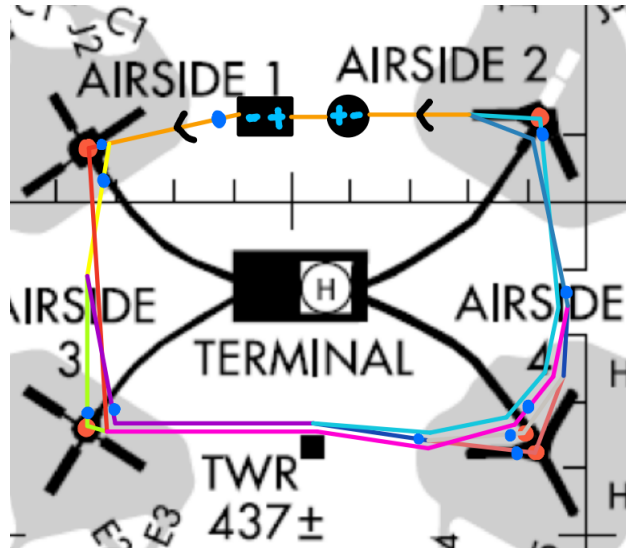
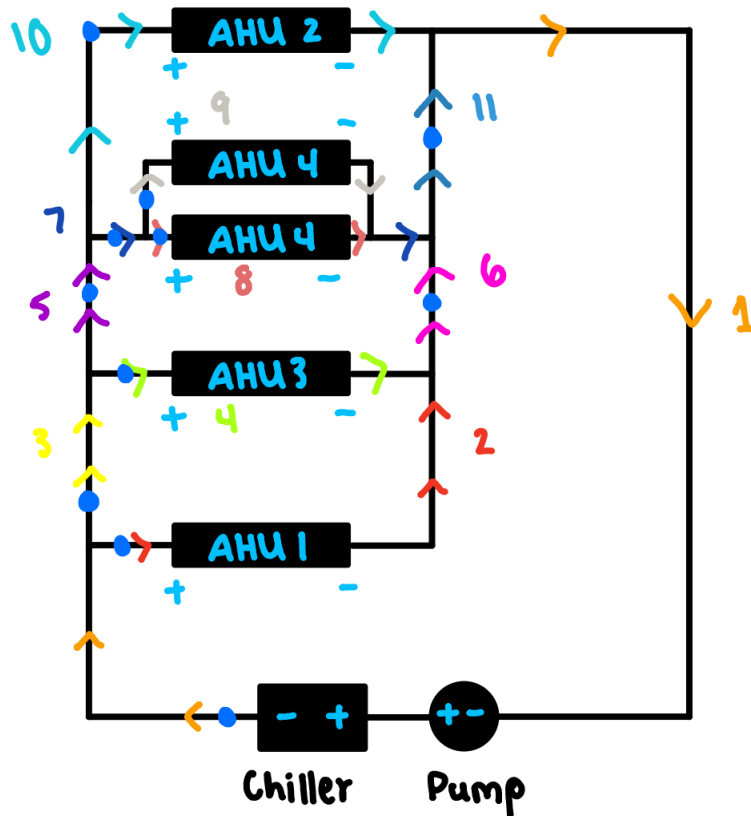

Figure 4: Physical Map of Valve Placements
Figure 5: Schematic of Valve Placements
Figure 4 shows the exaggerated valve placements (the blue dots). The specifications require that each line receives at least one valve.
Figure 5 shows a clearer network of the pipe placements. The shutoff valve for line 1 is positioned after the chiller to prevent bucking of the pump. The valves will be gate valves, since it is the most common type of valve. The loss per each gate valve is $K = 8f_T$ (each line will have $C = 8$ because this is the only loss considered that gets multiplied by f_T). The fittings used for this network will be standard tee (for splitting the flow) and elbow fittings (for changing direction). There is a lot of approximation when it comes to the fittings, but the major losses and losses across the air handling units for this case should triumph over the loss produced by the fittings, since the lengths of each pipe are thousands of feet. All pipes will have a loss due to the entrance and exit ($K = 1.78$). Here is a description for the minor losses in each pipe (each fitting is visualized in Figure 4):
- Pipe 9 is the flow through branch of two tee connections and contains two elbows (seen more clearly in Figure 5). $K_9 = 1.78 + 1(2) + 2(0.75) = 5.28$
↳Figure 5